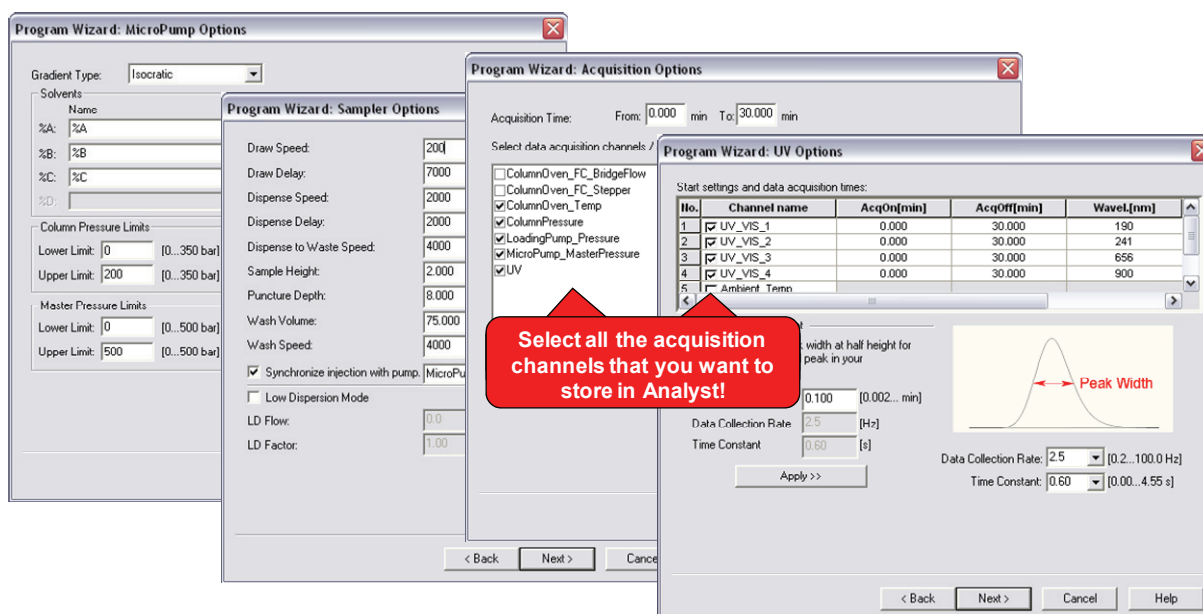
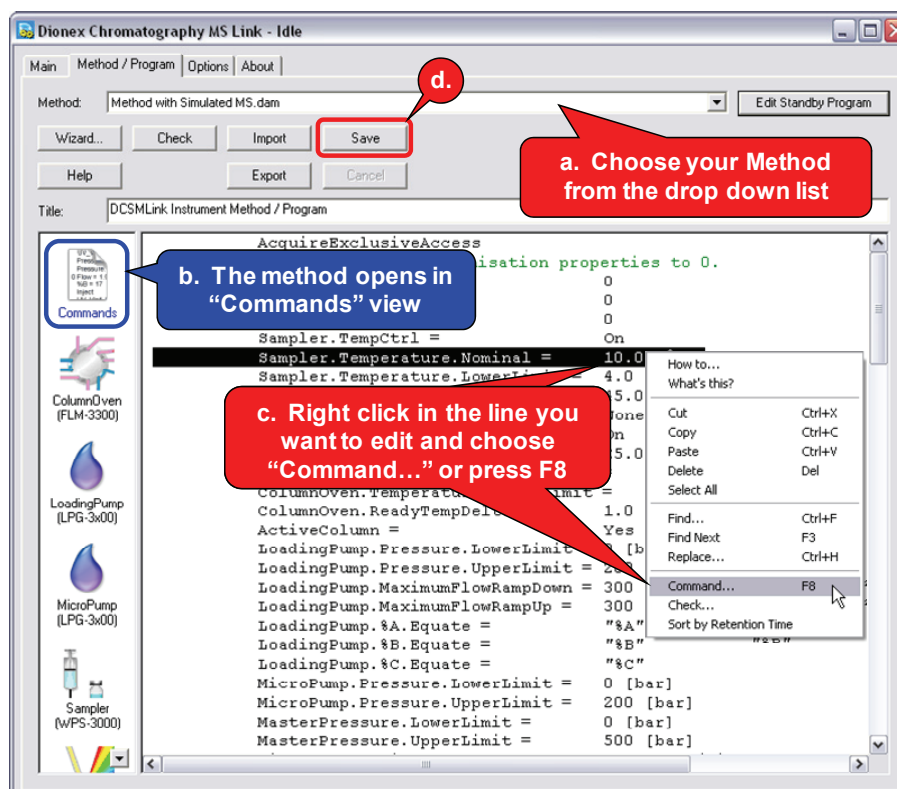
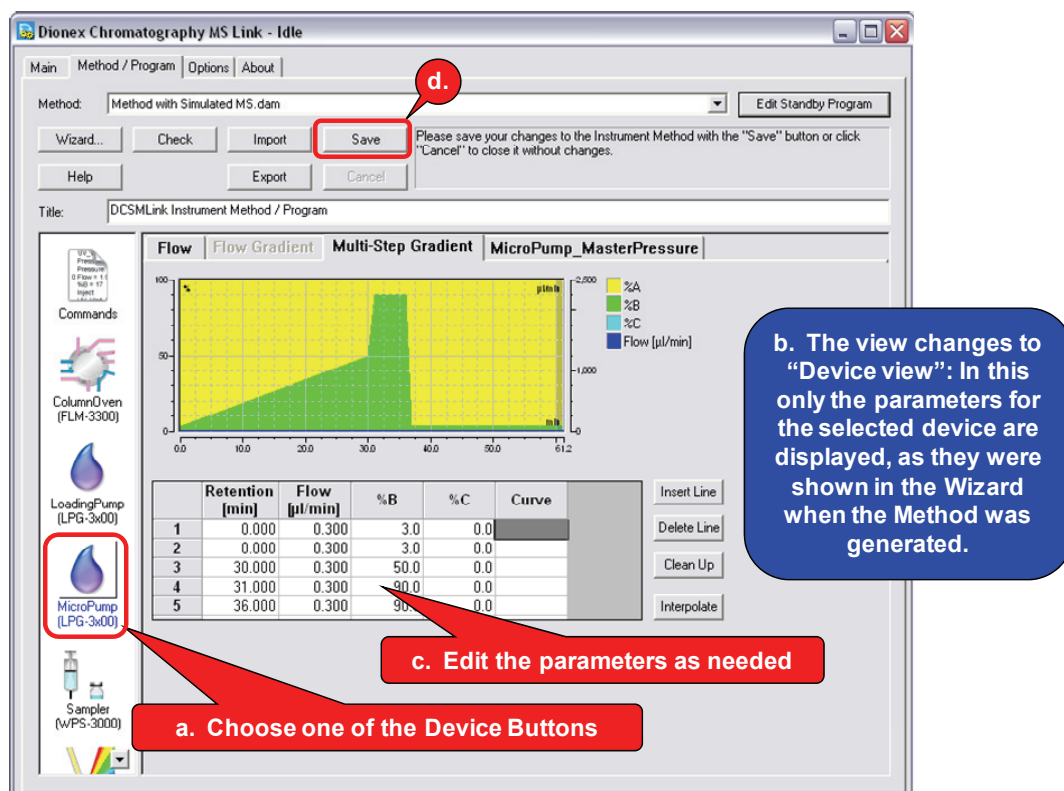

Fig. 16: A few examples of the Program Wizard pages
Fig. 18: Start editing the LC part of a method by selecting it from the dropdown list. Single parameters can be easily edited in Commands view.
Fig. 20: Editing parameters for a certain module (the Pump in this example) in “Device views”
4. **Go through the Wizard pages** (Fig. 16) to generate the LC part of the Acquisition Method. Make sure you select the channels that you want to acquire and store in Analyst.
Compared to the Commands view (Fig. 18), Device views (Fig. 20) provides a different user interface: Instead of a chronological list of commands, only the parameters for the selected device are displayed as dialogs/tables on various tab pages. Device views are similar to the Wizard pages that were used for creating the Method, Fig. 16.